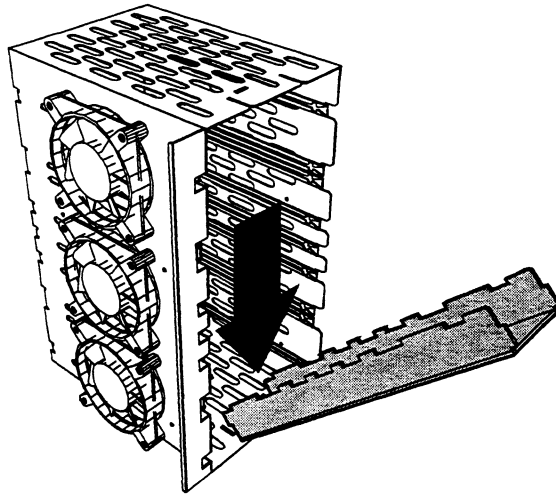

Figure 3-10 Inserting the base of the lock
11. Insert the base of the lock into the notch at the bottom of the hot-swap cage as shown in Figure 3-10.